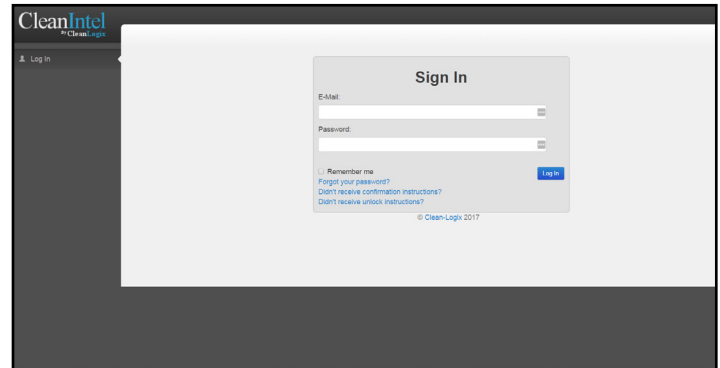

Figure 12.1: Clean Intel Login Screen (shown in Google Chrome)
2. Login as an administrator [Figure 12.1].